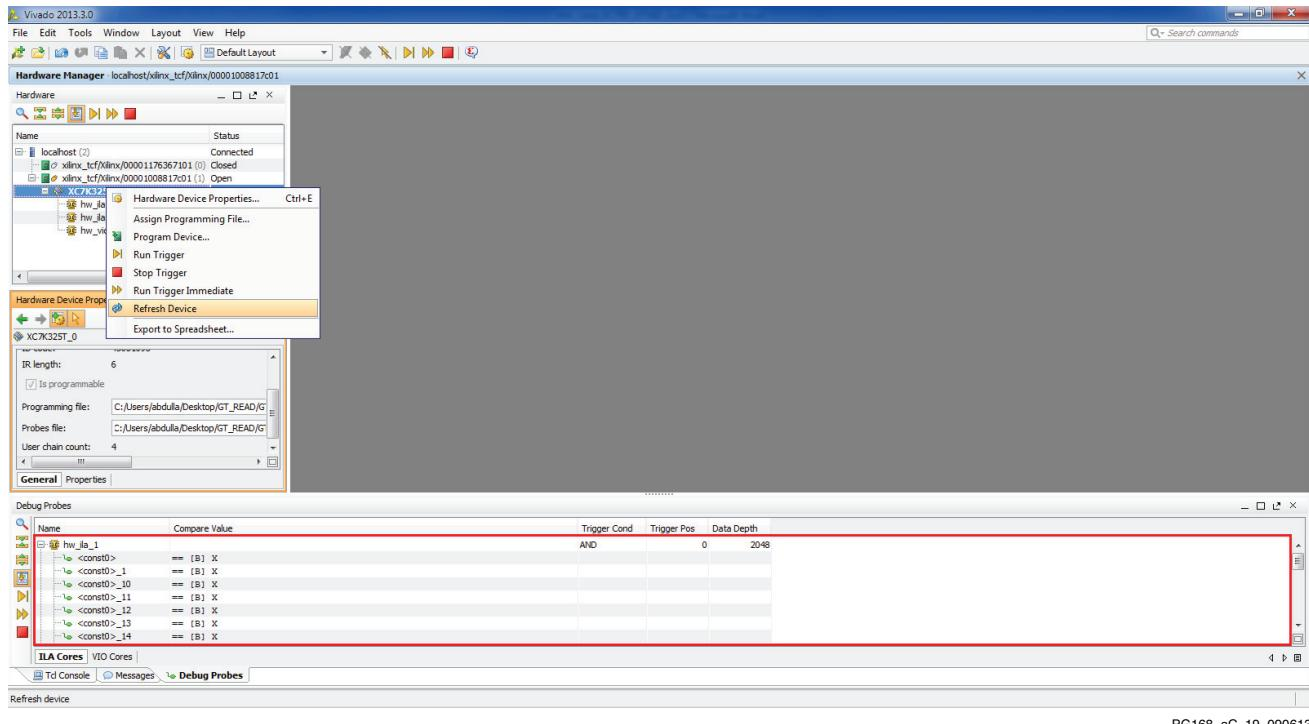

Figure C-19: Refresh Device
22. Repeat step 18 and step 19 to program board 2 with the same programming file and probe file that was downloaded on the first KC705 board. After programming is complete, right-click the device and select **Refresh Device**, as shown in Figure C-19. You should be able to see all nets that are added to the ILA cores.